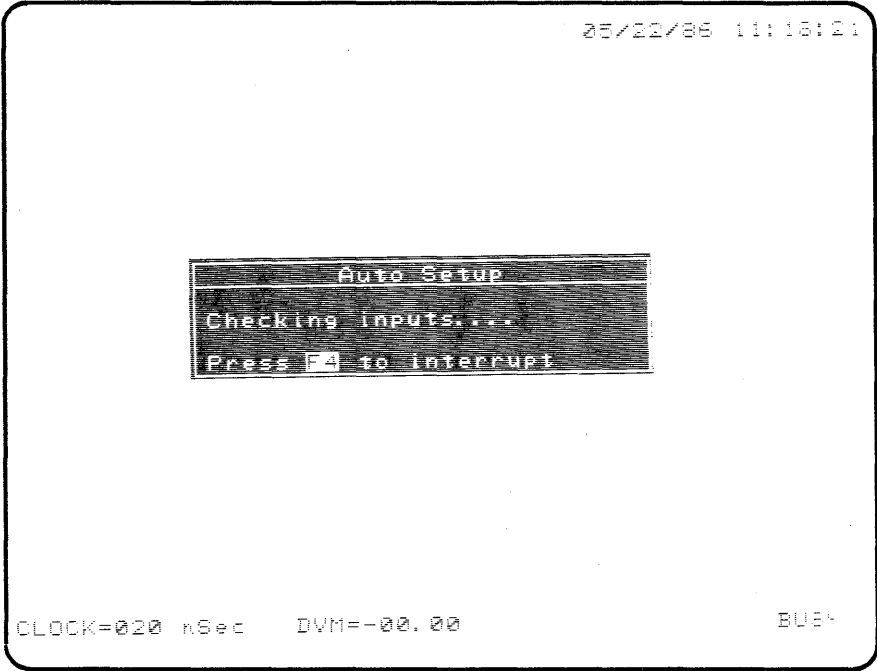

Figure 4-25. Initialization Display
The K450 Auto Setup is a feature that identifies all active inputs and configures the K450 Logic Analyzer to record and display circuit activity. Pressing the SHIFT key and then the CLOCK key executes the K450 Auto Setup (Figure 4-25), reducing setup time and simplifying operation.
2. Press the SHIFT key and then the CLOCK key on the K450 front panel. The K450 Auto Setup Initialization message window is displayed (See Figure 4-25). The K450 Auto Setup takes a series of recordings and performs the following operations: